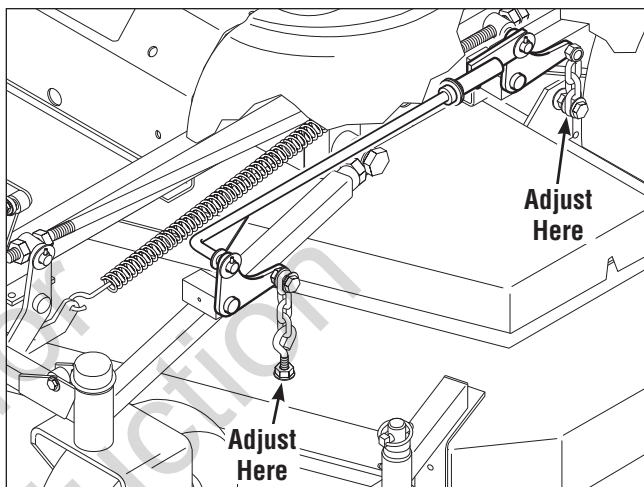

Figure 43. Deck Level & Spring Length Adjustment
4. Adjust the front eyebolts until the chains are tight and the deck is still resting on the 2 x 4's. Tighten jam nuts. See Figure 43.
5. Loosen the nuts and allow the rear of the deck to rest on the 2 x 4's. Slide the chains down in the slots until the chains are tight and tighten the nuts. See Figure 43.